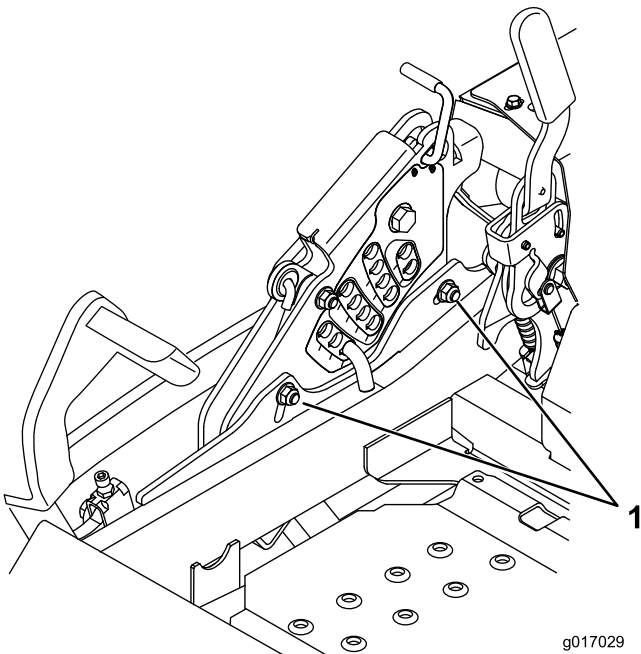

Figure 89
- To adjust the single point system, loosen the two bolts at the bottom of the height of cut plate. Refer to Figure 89.
- Tighten the two bolts at the bottom of the height of cut plate (Figure 89). Torque to 27-33 ft-lb (37-45 N-m).